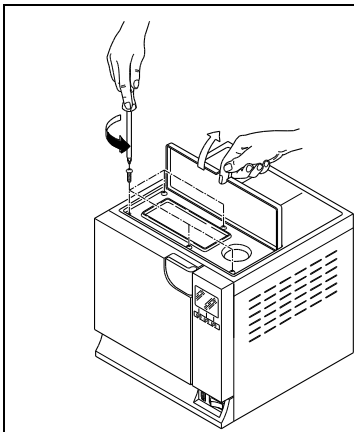

Fig. 10.2-5
- unscrew the 5 screws (Fig. 10.2-5);